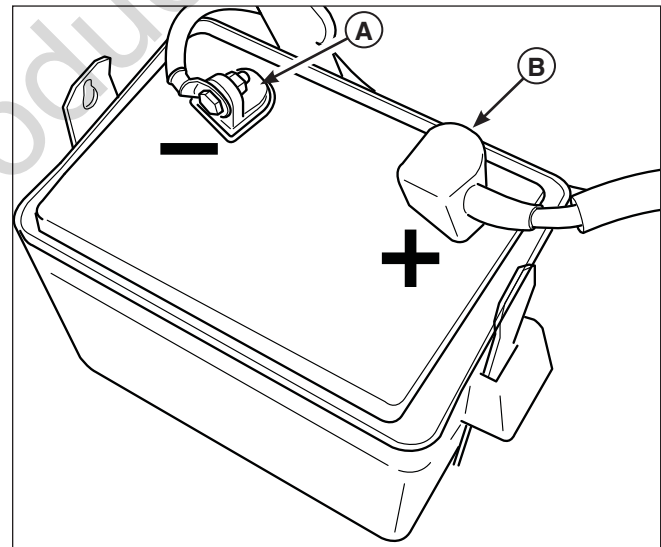

Figure 40. Battery Compartment
1. Disconnect the cables from the battery, negative [-] cable first (**A, Figure 40**).